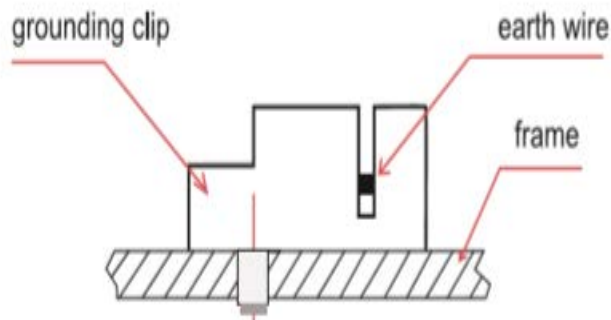

figure 2
- As shown in the *figure2*, the grounding clip assembly consists of a slider, base, and self-captivating thread-cutting screw or 8-32 screw and hex nut. The grounding clip accepts solid uninsulated copper wire sizes 10 or 12 AWG.